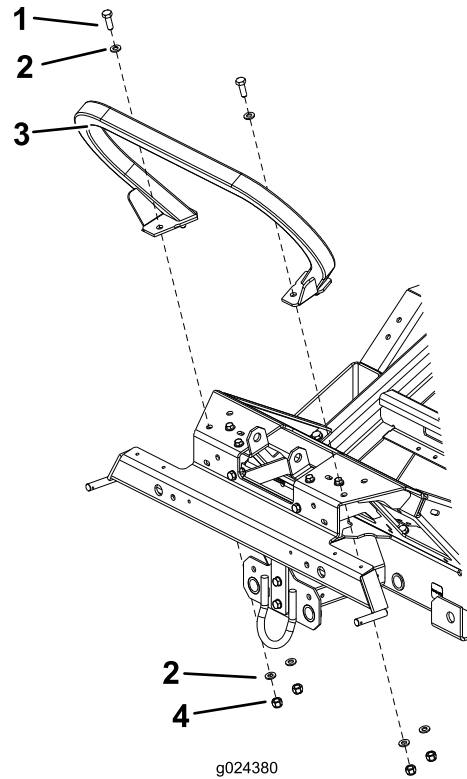

Figure 6
1. Remove the (4) M10 x 20 screws and nuts that secure the platform pivot bracket to the chassis. Take care not to disturb the position of the pivot bracket.
2. Install the front hoop to the front chassis with (2) M12 x 35 screws, (6) washers and (4) M12 nuts (Figure 6). Fully tighten all the fasteners.